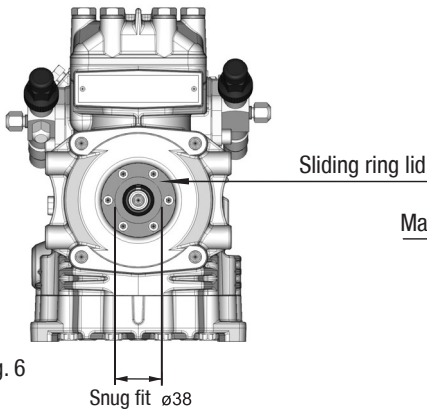

Fig. 6
- To absorb the magnetic field of the electromagnetic clutch, the sliding ring lid has a snug fit  $\varnothing 38 \text{ h8}$  (see Fig. 6).